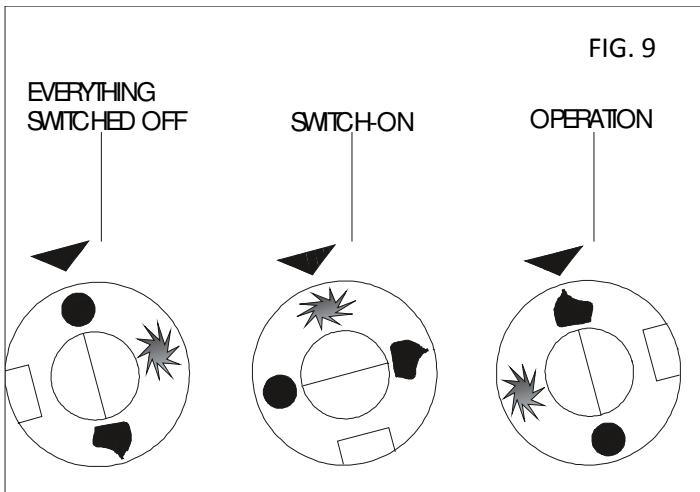

FIG. 9
### APPLIANCES WITH ELECTRIC-GAS VALVE (FIG. 9)
- Turn the knob (Fig. 9) and press it at the 'SWITCH-ON' position and keep it pressed until the pilot flame comes on and stays lighted.
- Turn the knob (Fig. 9) to 'OPERATION' position.
- Turn the knob (Fig. 9) back to the 'SWITCH-ON' position.
- Turn the knob to 'EVERYTHING SWITCHED OFF' (Fig. 9) position and turn off the gas stopcock behind the appliance.